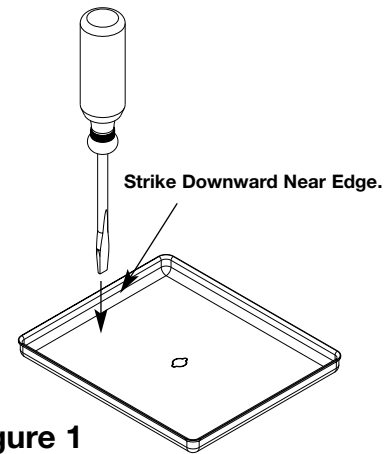

Figure 1
2. Remove Mudcap: (See Figure 1).